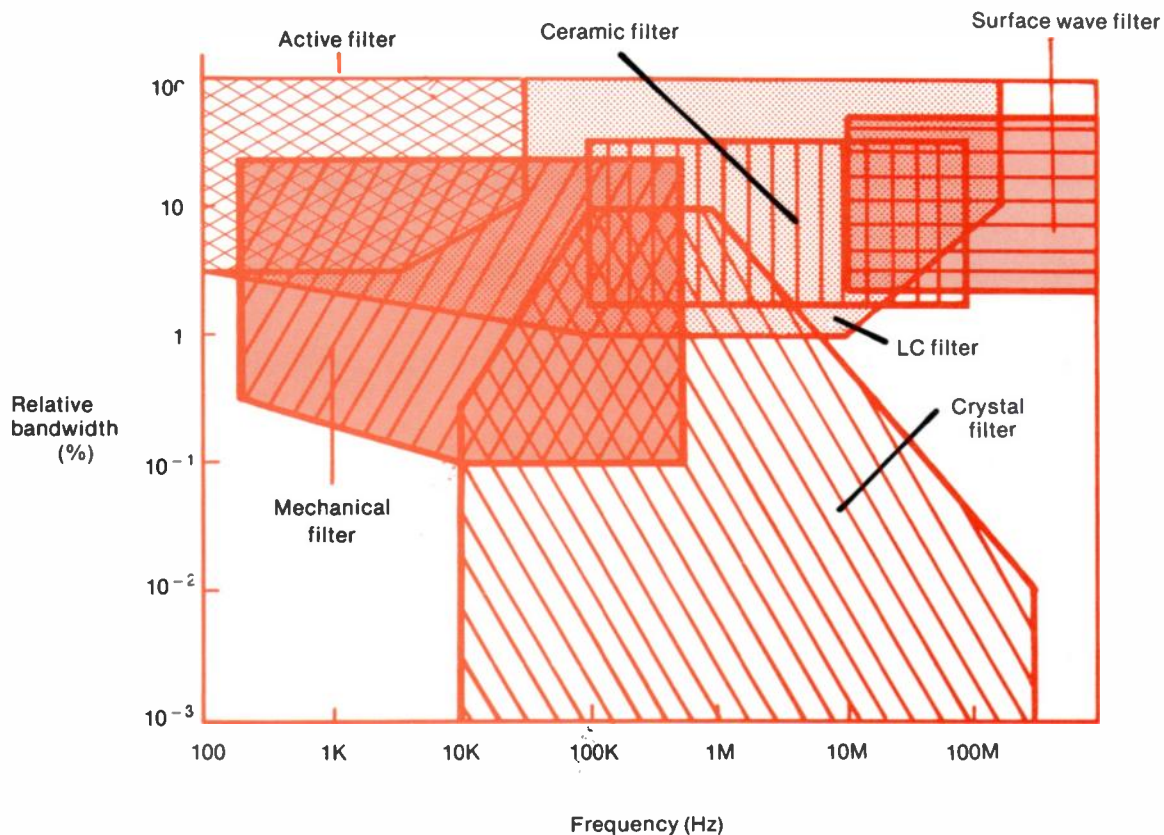

Figure 1. Applicable Areas of Mechanical Filters and Other Filters
0.1 to 25 percent as shown in Figure 1. For the frequency range from 200Hz to 10kHz, tuning forks are used. For the frequency range from 5kHz to 100kHz, the flexure vibration of bars is used. For a higher fre-